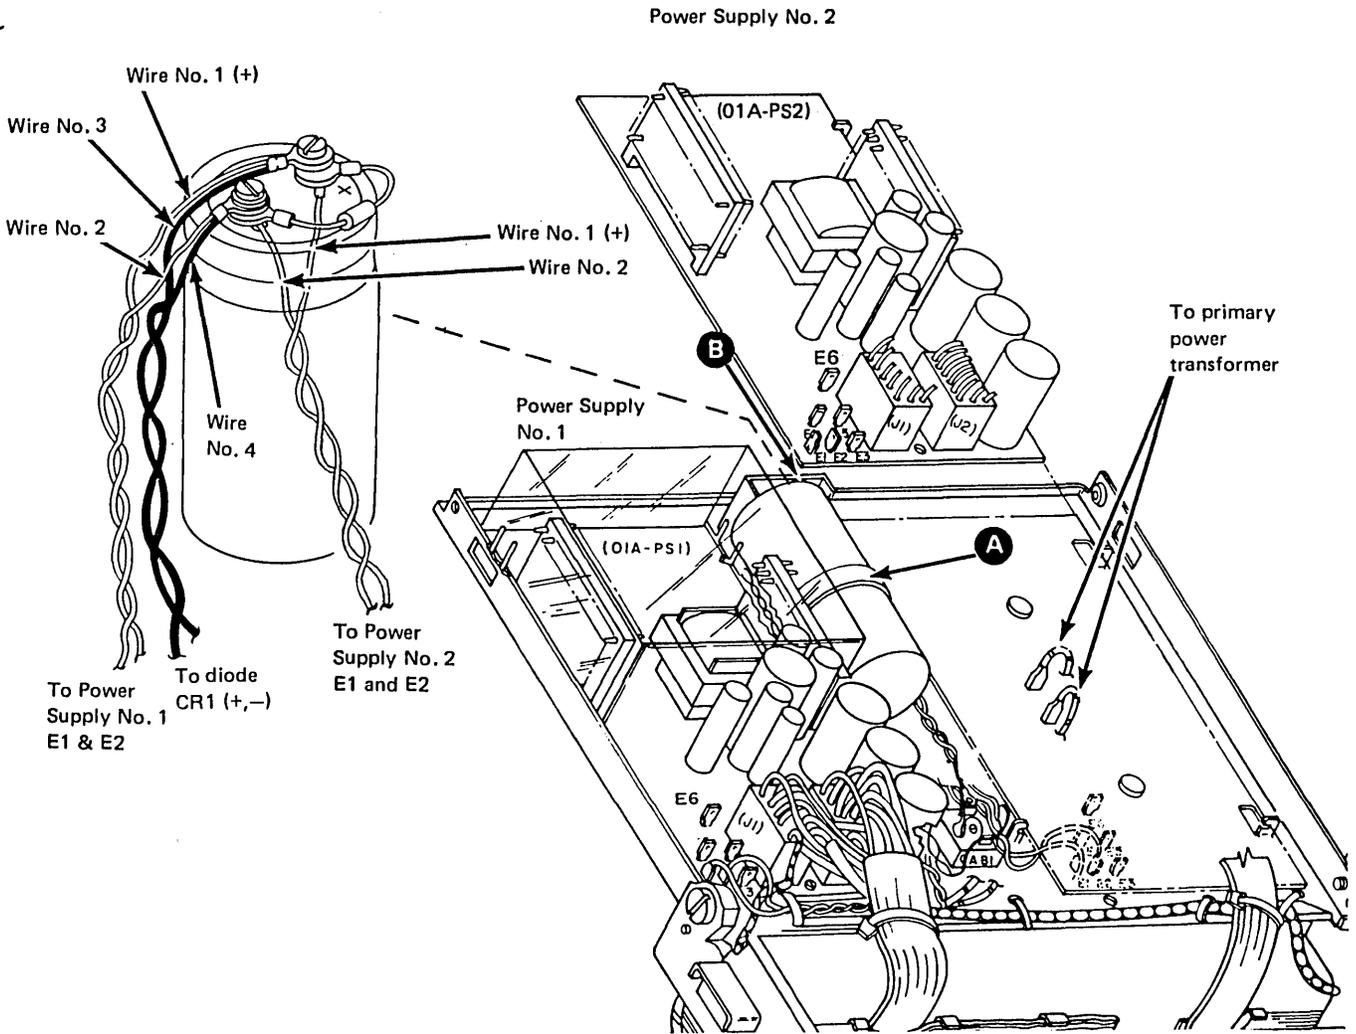

Figure 4-8. Prime Power Input Filter Capacitor
4.9 Input Filter Capacitor, Removal and Replacement (Figure 4-8)